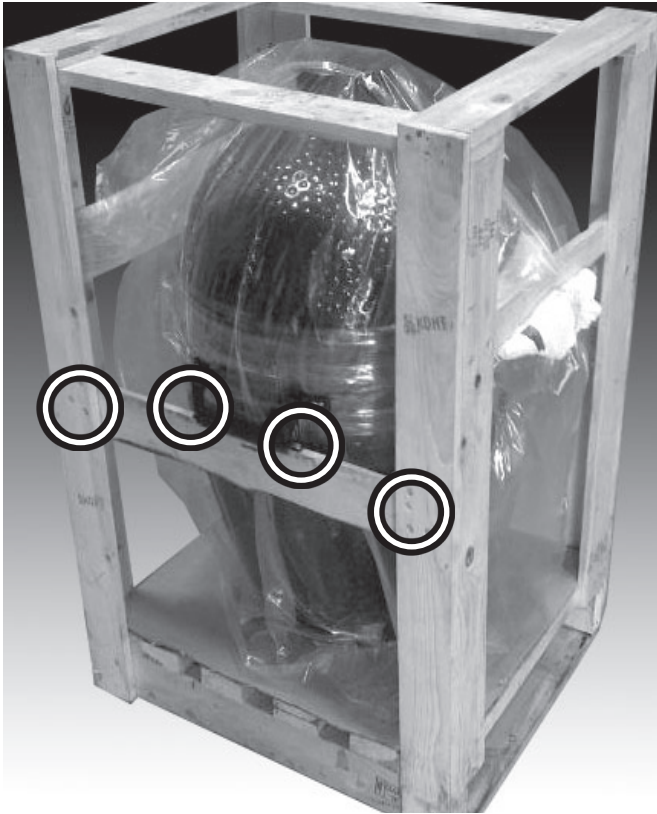
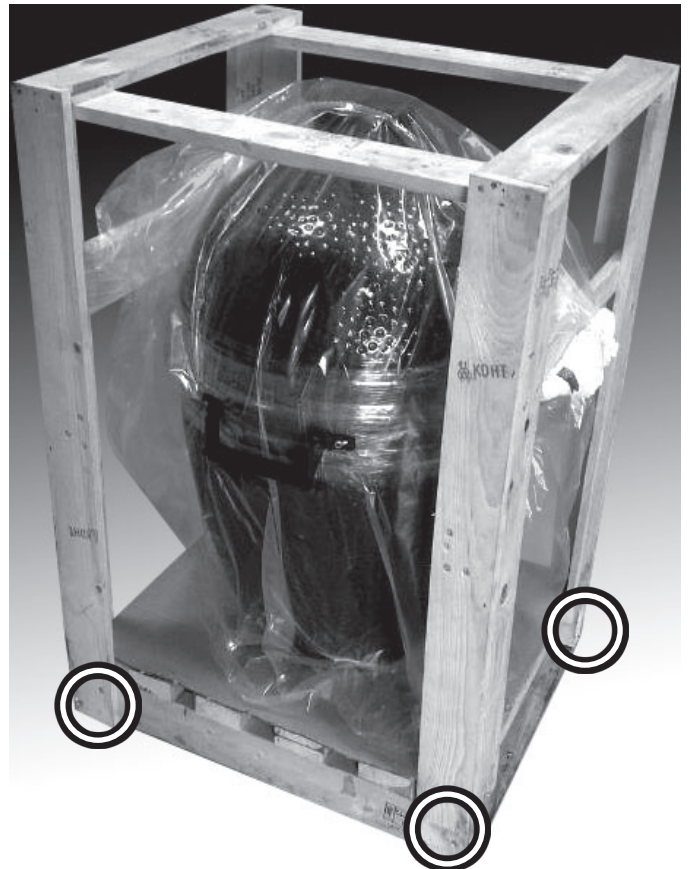

FIGURE 2: CROSS MEMBER REMOVAL
FIGURE 3: PALLET SCREW REMOVAL
Step 2: Remove all of the screws securing the crate to the pallet using a 5/16" socket (see Figure 3). There are three screws per corner. DO NOT attempt to remove the crate yet.
Step 1: To remove the crating you will need a 5/16" socket or flat screwdriver. Start by removing the screws in the circled areas shown (see Figure 2) on both sides of the crate. Both side cross members can now be removed from the crate (See Figure 3). DO NOT remove the red side handles.